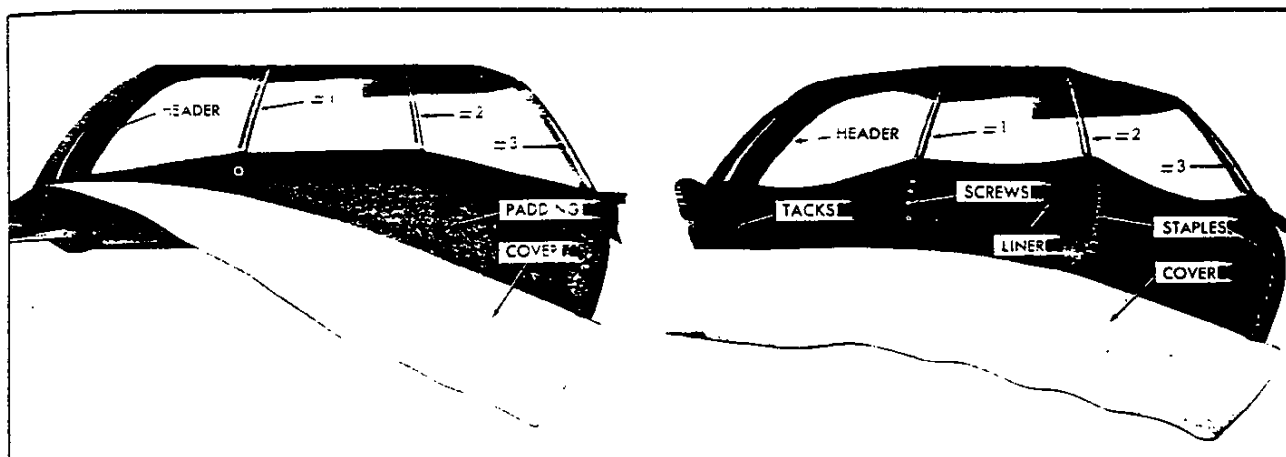
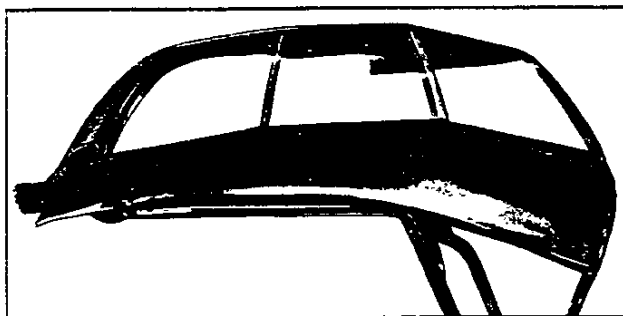

Fig. 73—Pad Construction
Fig. 74—Pad Installed
3. If new pads are required, install at this time, aligning with marks made when old pads were removed. Figure 73 shows pad construction; Figure 74 shows pad installed.